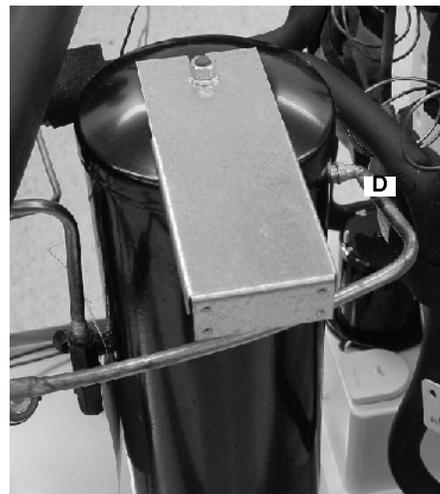

Figure 29.
Connect the tubing to the evaporator inlets and outlets, compressor discharge (C), and the receiver inlet port (D) (FIGURE 29).